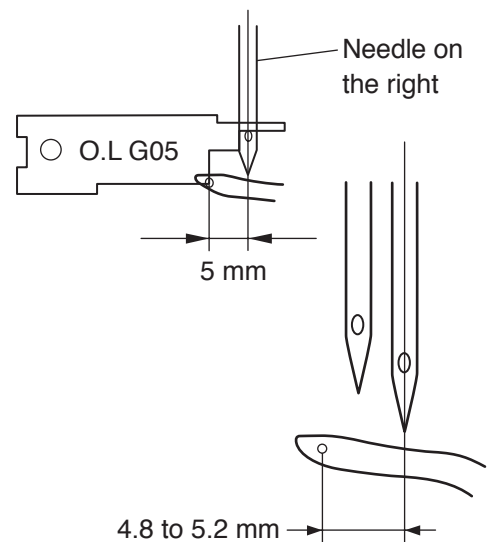
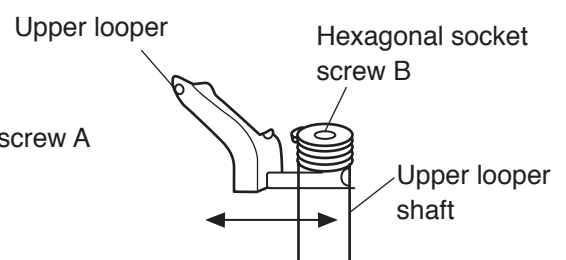

Figure 2
Figure 3
5. Loosen the hexagonal socket screw B, and adjust the distance between the center of needle and center of upper looper eye as shown in Figure 2 and Figure 3.